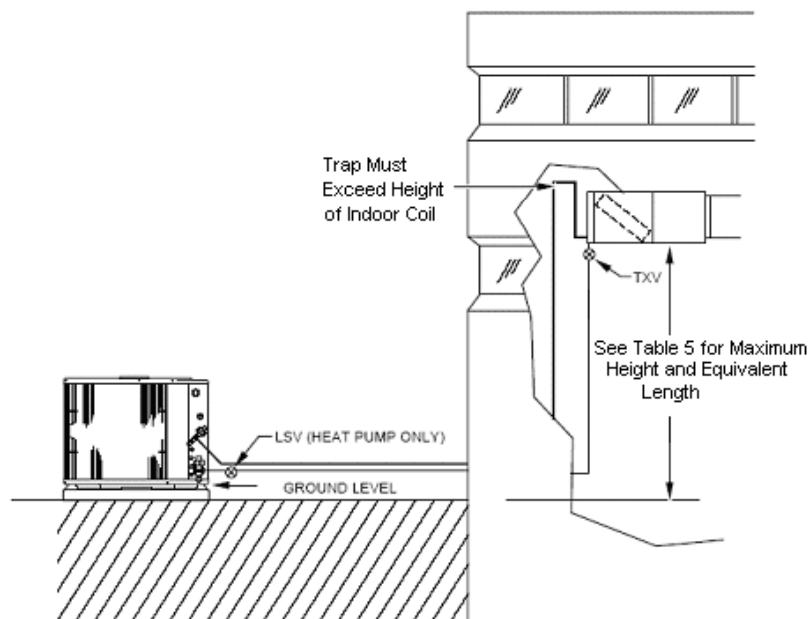

Fig. 3 – Outdoor Unit Below Indoor Unit
- Elevation differential must be 20 ft or less. If greater than 20 ft, see Fig. 3 or 4.
- ☐ An inverted vapor-line trap must be installed at indoor unit. The top peak of trap must be greater than height of indoor coil. See Fig. 3.